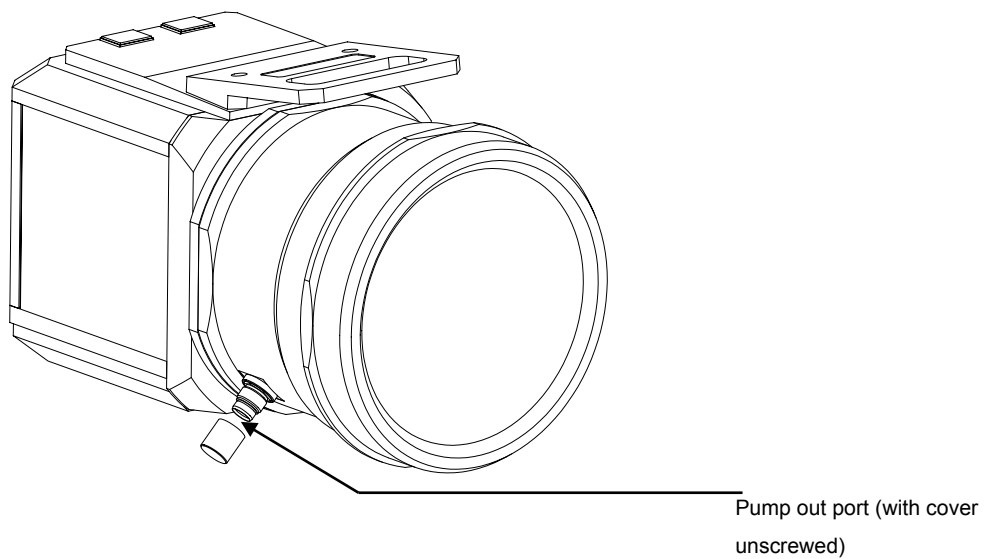

Figure 9.14.1 View of the access plates and pump out ports of the Sapphire and Onyx CCD detectors
3. Unscrew top access plate of CCD detector (See figure 9.14.1 for details of specific CCD detector).